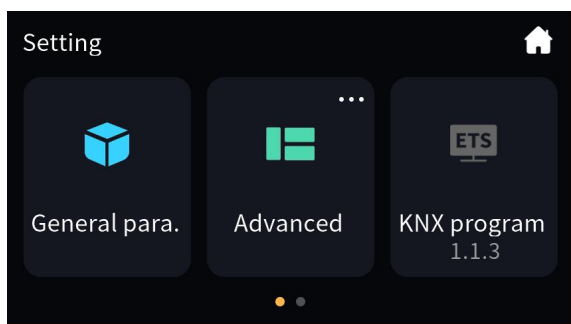
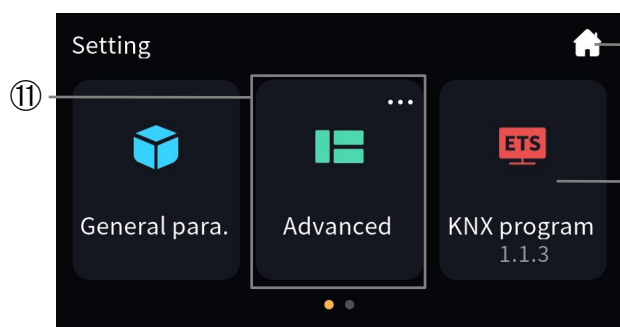

Fig.2.3.1
Fig.2.3.3
Click the setting icon in the upper-right corner of the home page to enter the setting page, as shown in Fig.2.3.1.
① **Return to the home page by touching this icon;**
② **This icon is KNX programming button, and display individual address of device below, which is set by ETS;**
Touch the button icon② to enter or exit the physical address programming mode. Under the programming mode, the icon turns red, as shown in Fig.2.3.3. After exiting the programming mode, the icon returns to the normal instruction, as shown in Fig.2.3.1.
③ **Return to the setting page by touching this icon;**
④ **This area displays the page description identification of Setting page, format as: setting| description of function page currently manipulated;**